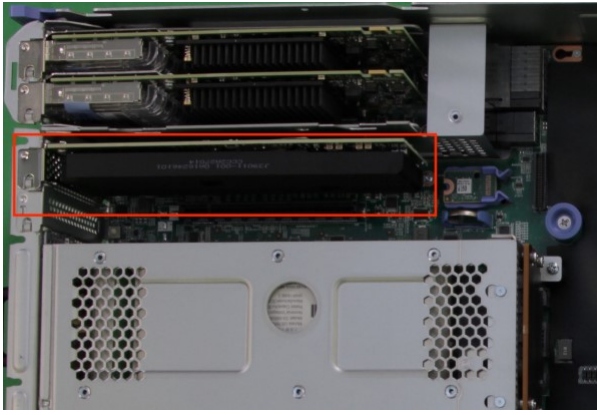

Figure 107. Locating the compression card
5. The compression card is located in adapter slot 3 located closest to adapter cage 1, as shown in Figure 107 on page 168